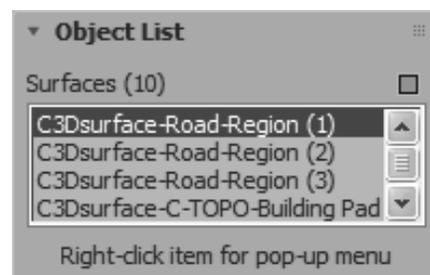

Figure 3–9
- Verify that the *Civil Explorer* tab is selected. Expand **Civil View Objects>Imported Objects**, if not already expanded. Select **Surfaces** and note that the corridor is selected in the viewports. The *Object List* rollout opens with all of the surfaces listed, as shown in Figure 3–9.